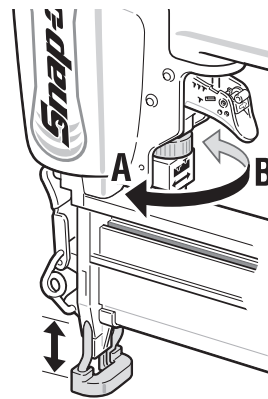

Figure 3
Adjust the depth of nailing by turning the adjustment knob (Figure 3, Item 1) to the left (A) for the deepest setting and to the right (B) for the shallowest setting. To increase the depth of the nails, when the adjustment knob is already set to its highest setting, increase the air pressure. To decrease the depth of nails when the adjustment knob is already set to its lowest setting, decrease the air pressure. Should nails be driven too deep even when the adjustment knob is set at its lowest setting, decrease the air pressure. In general, the finish nailer will have a longer service life when the adjustment knob is set at a lower setting causing less wear and tear on the driving mechanism.